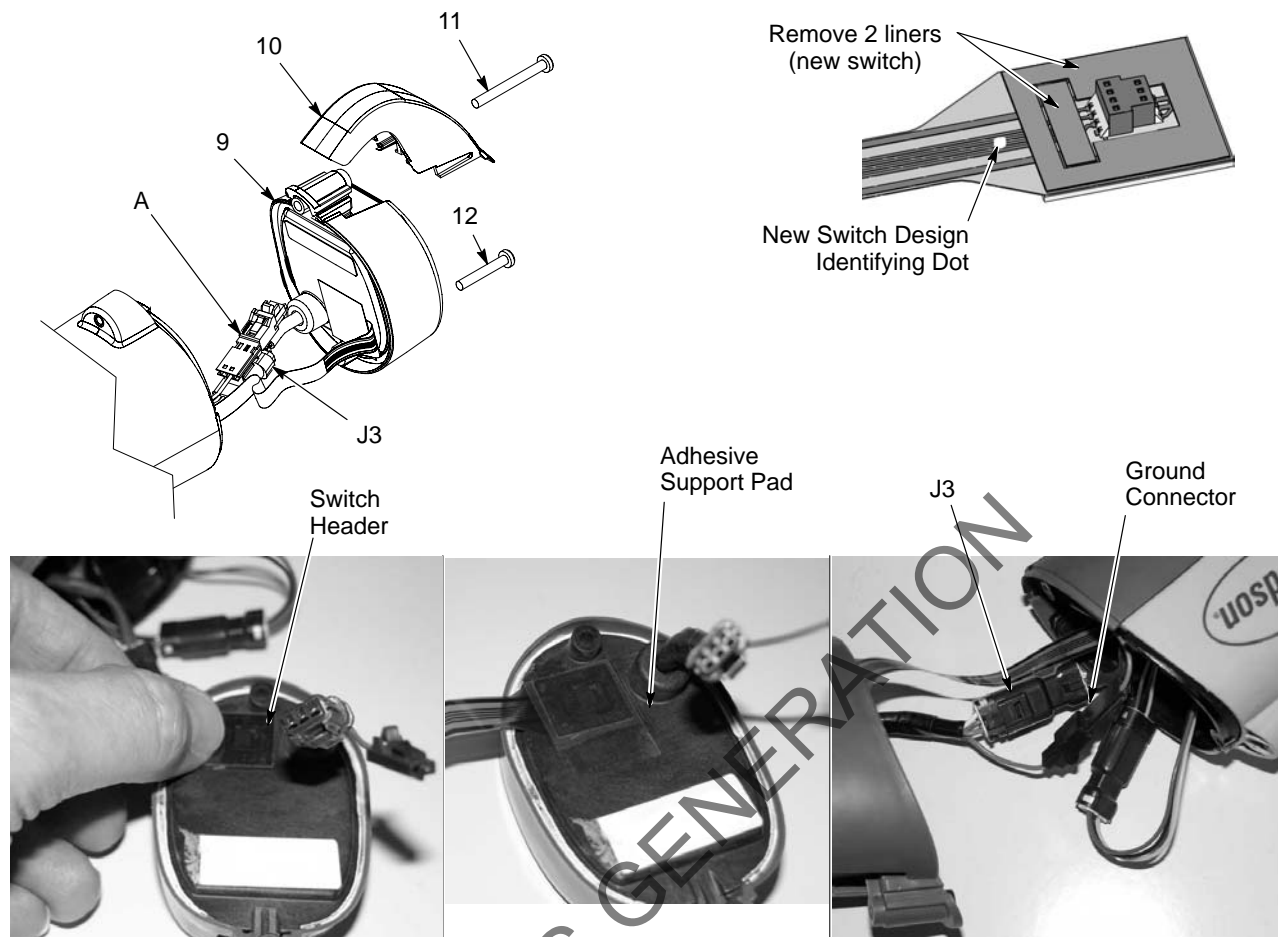

Figure 1 Display Module Removal/Installation
The Encore trigger switch has been redesigned to eliminate the notches on the side of the switch body. The new switch has a white identifying dot on the switch header where it plugs into the display module, so it can be identified without removing the switch from the gun handle (See Figure 1).
1. See Figure 1. Unscrew the top (M3 x 30) screw (11) holding the hook (10) and display module (9) onto the gun body.
2. Slide the hook off the display module (9).
3. Unscrew the bottom (M3 x 20) screw (12) (display module to gun).
5. Disconnect the display module ground connector (A). This ground cable is connected to the barbed fitting in the handle base. Older units do not have a separate ground cable.